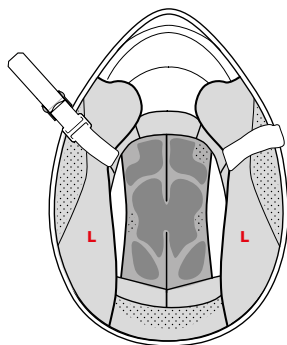

FIGURE 9
**Inner side padding: CHEEK PADS — L — Figure 9**